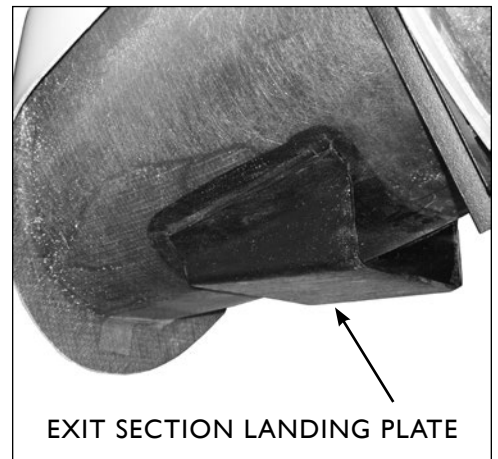

FIG. 1
- The exit section should be supported at the fiberglass landing plate. (Fig. 1) The exit plate can simply rest upon the substrate or be drilled from the side and bolted to a bracket (not supplied).
With the exception of the exit section landing plate (Fig. 1), make sure that a minimum 3 inch clearance is maintained between any portion of the underside of the slide (including the flanges) and the substrate. Based on the slider's weight and velocity the slide can move slightly both vertically and horizontally. If the slide rubs upon the substrate due to this motion a wear spot and/or leak can develop.